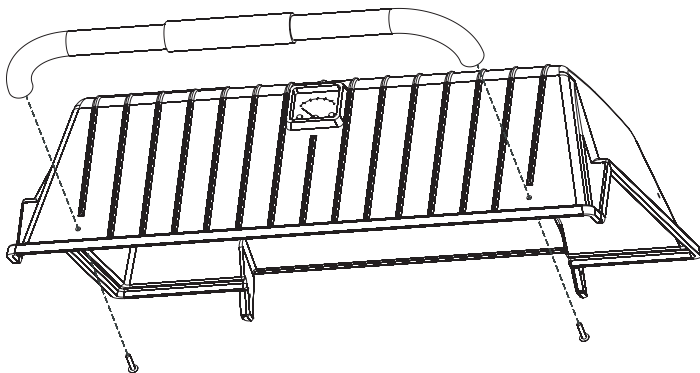

Figure 12
- Fasten the lid handle to the grill body top (1) with two #10-24 x 1" screws. See Figure 12.